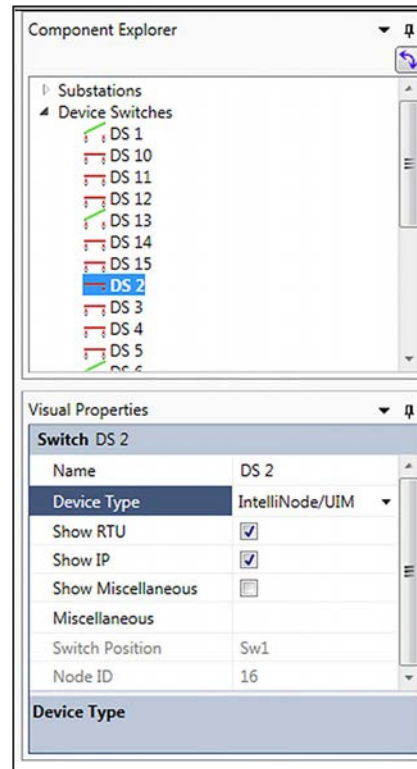

Figure 75. The Component Explorer and Visual Properties dialog boxes.
- STEP 1.** Using the Component Explorer dialog box, one by one select DS 2, DS 4, DS 7, and DS 15. As each switch is selected, use the Visual Properties dialog box to change the **Device Type** setting from “IntelliRupter” to “IntelliNode.” See Figure 75.